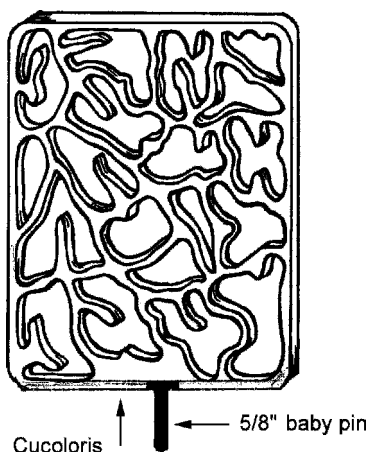

Figure 2.19 Cucoloris.
1. The cucoloris is used to create a shadow pattern on a backdrop or on any subject (Figure 2.19).